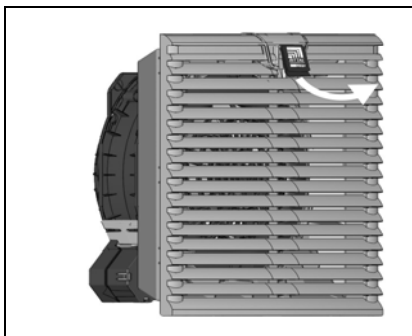

Fig. 6: Release the louvred grille
- First press the catch of the louvred grille (Rittal logo) up slightly with one finger (see fig. 6)